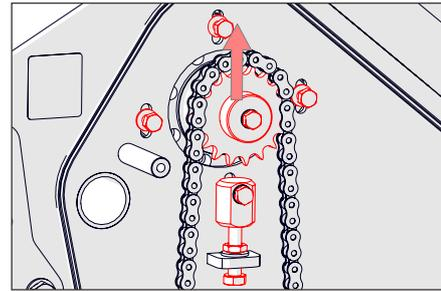

Fig. 11G - Tighten the belt and tensioner block locking nut.
7. Slide the entire motor assembly up until the chain/belt is taut. Tighten the tensioner block lock nut [17 mm spanner] (Fig. 11G).